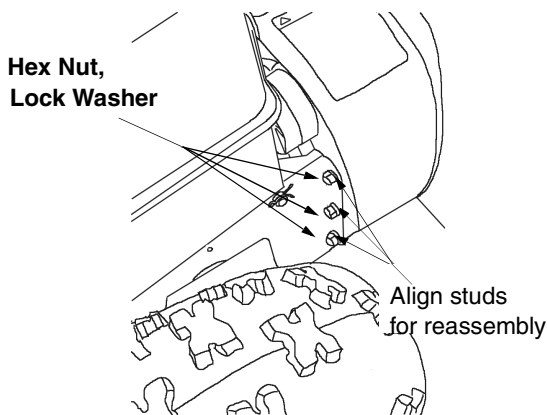

**Figure 26**
- Disconnect chute crank assembly at the discharge chute by removing the hairpin clip and the two flat washers. See Figure 26.